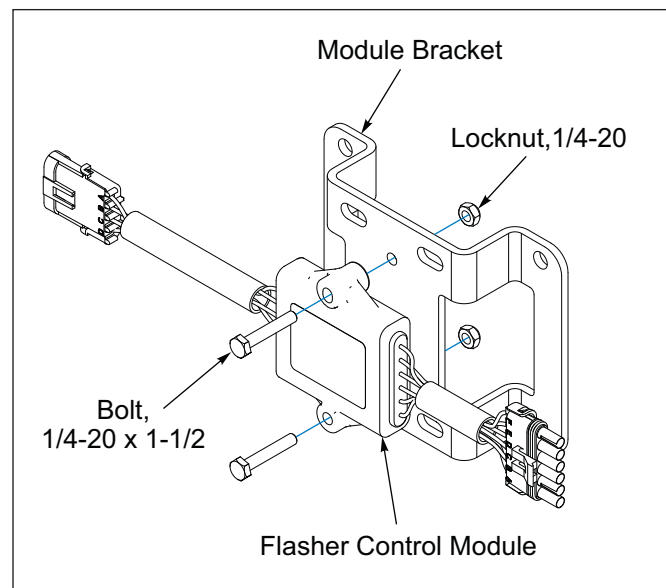

Figure 2-18: Flasher Control Module and Bracket
3. Attach the Flasher Control Module to the Module Bracket with 1/4-20 x 1-1/2 Bolts and Locknuts. **See Figure 2-18.**